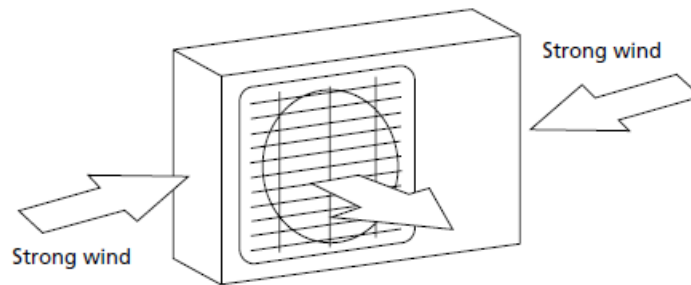

Fig. 3.1
- If the location is exposed to strong winds (for example: near a seaside), the unit must be placed against the wall to shelter it from the wind. If necessary, use an awning. Ensure minimum space requirements are met. (See Fig. 3.1 & 3.2)